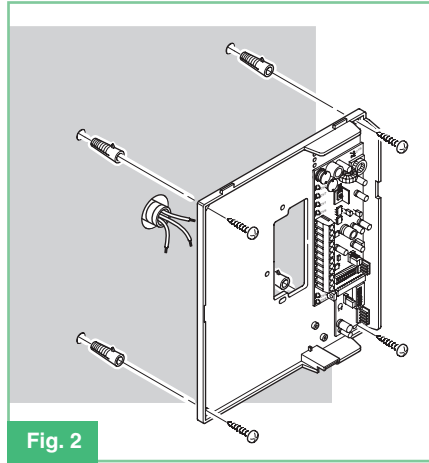

Fig. 2
- Fig. 2** Installation on wall with Bracket Art. 5706 with 4 expansion anchoring screws.
- Fig. 2** Installazione a muro Staffa Art. 5706 con 4 viti a tassello.
- Fig. 2** Installation en saillie Bride Art. 5706 à l'aide de 4 vis.